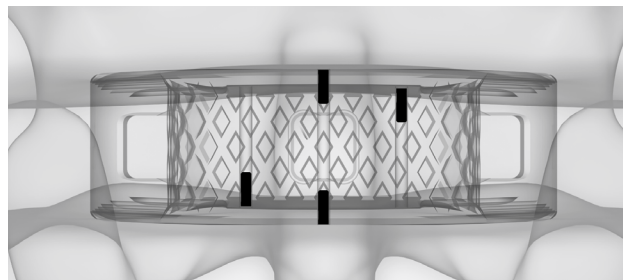

Figure 11A
- Verify final implant placement with A/P and lateral fluoroscopic images (Figures 11A and B).